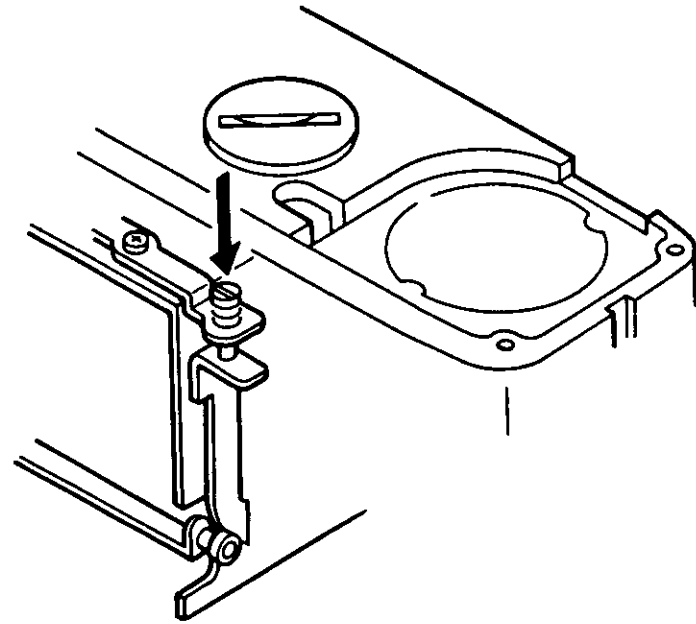

Fig. 55
4. Focusing of finder (see Fig. 55)
Remove the **BOTTOM COVER** and adjust with **SCREW** shown by an arrow in Fig. 55.